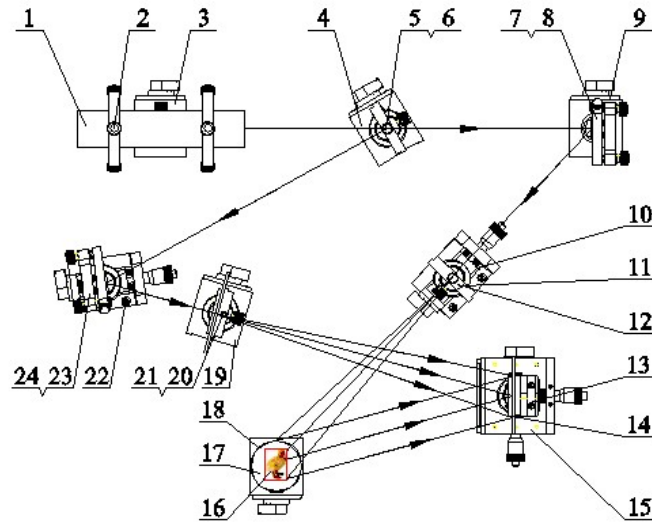

Figure 23-1 Schematic of experimental setup
- 1) Refer to Figure 23-1, align all components in same height, let the primary plane of the system parallel to the table, remove L_1 and L_2 from optical path at this moment;